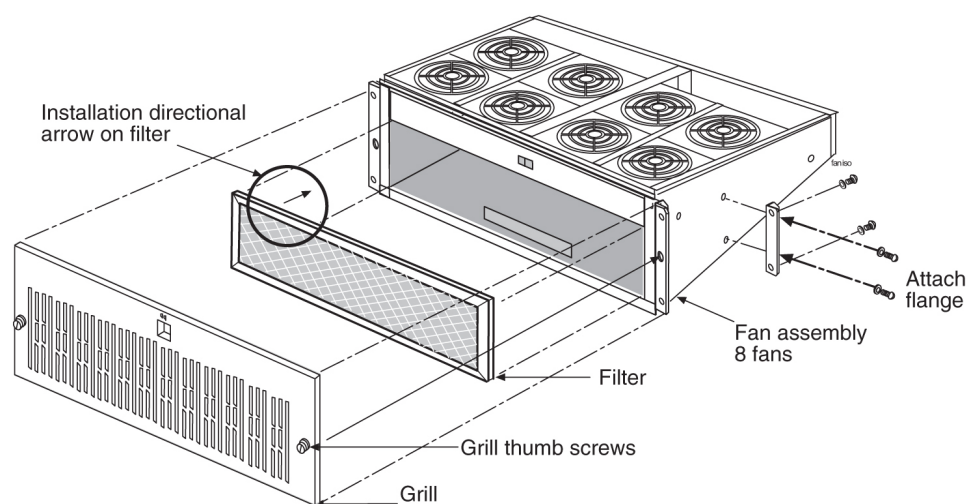

Figure 93: Fan Assembly with Grill and Filter
1. Determine where the fan assembly will be installed and be aware of hardware that needs to be retained or installed in a specific way, see Figure 93: Fan Assembly with Grill and Filter.